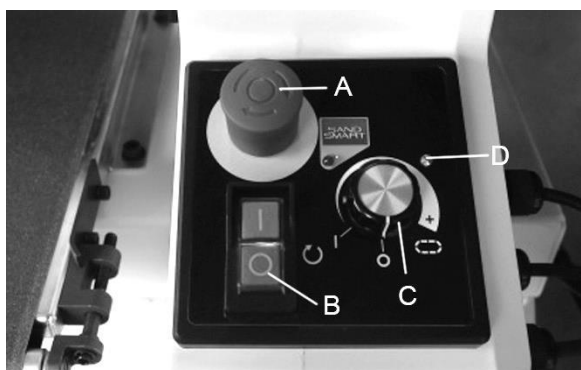

Figure 9-1: control panel
2. Disengage emergency stop by clockwise turning the red button or pulling it up (A, Figure 9-1).
**Note: Error Indicator (D) may flash continuously to remind that the conveyor speed dial is NOT set at OFF position before starting the operation.**